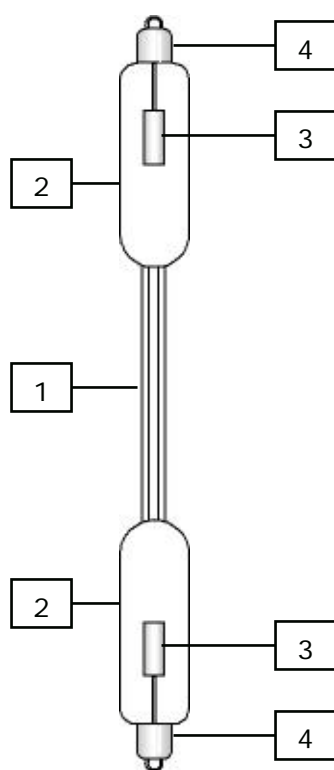

Figure 1
The construction of the spectrum tubes is shown in *Figure 1*. The area of observation is a glass capillary tube (1) that has a bulb (2) at each end. The bulbs contain cylindrical metal electrodes (3) connected through the glass wall of the bulbs to metal end caps (4) which are used both to hold the tube and to apply the high voltage to energize it. During manufacture, the tubes are evacuated to a good vacuum then a small amount of the substance to be examined—a gas or a volatile liquid or solid—is introduced to create a low pressure. The tube is then sealed off permanently.